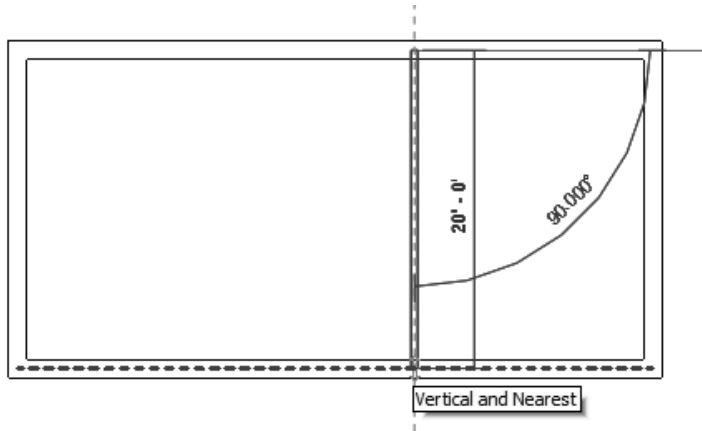

Figure 3-53 Specifying the endpoint of the first interior wall segment
3. Next, move the cursor vertically downward near the lower exterior wall segment. When the **Vertical and Nearest** symbol appears, as shown in Figure 3-53, click to specify the location of the endpoint of the wall segment. The first interior wall segment is sketched.